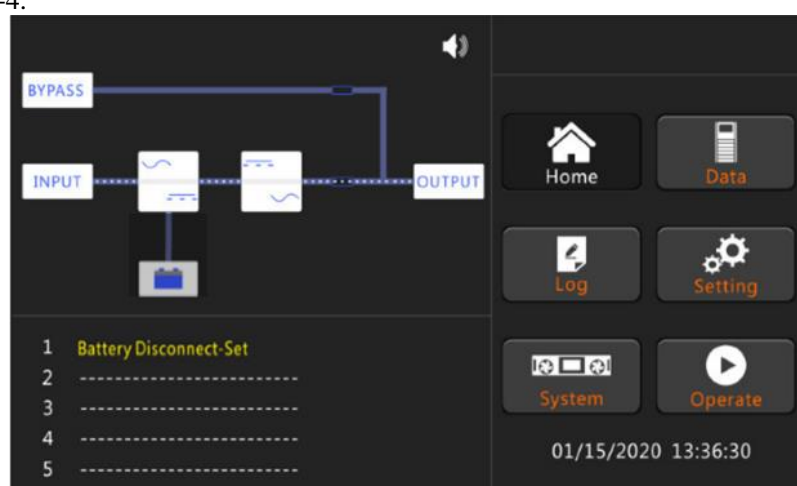

Figure.5.4 Normal mode
- After about 30S, when the inverter is running normally, the UPS switches from the bypass to the inverter, the bypass indicator bar is off, and the load indicator bar flashes. As shown in Figure 5-4.